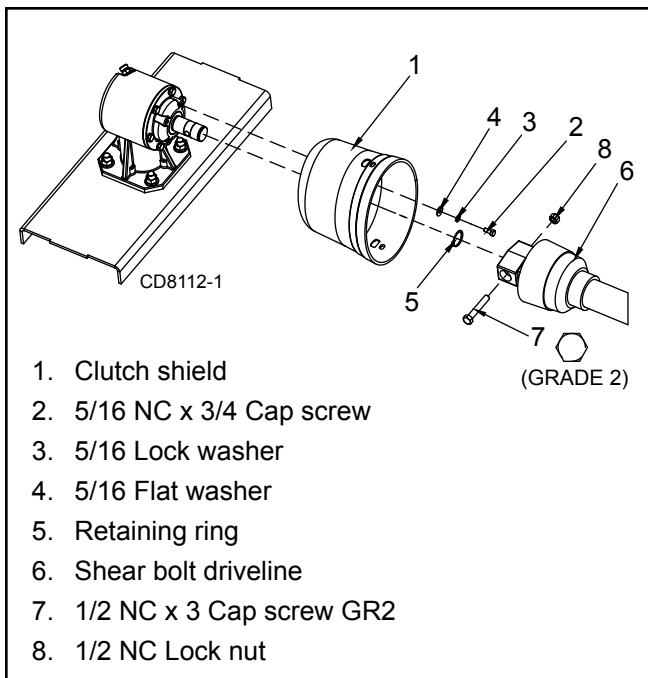

**Figure 13.** Slip Clutch Assembly
3. Mark outer plates of slip-disc clutch as shown in Figure 13.